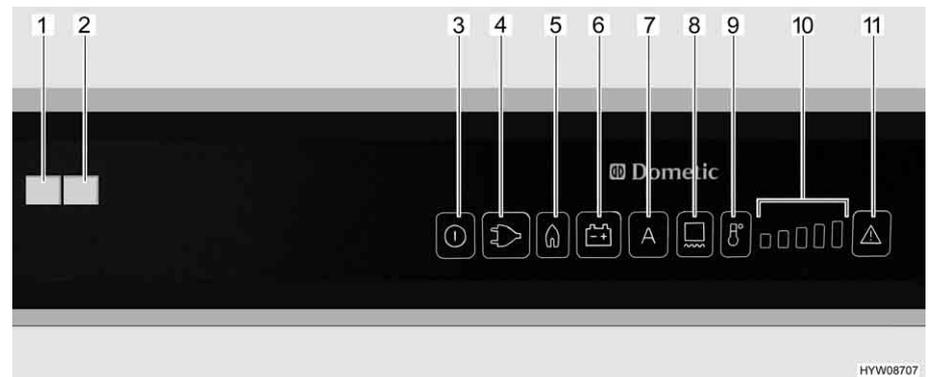

Fig. 210 Operating controls for the refrigerator (Dometic RMD)
If the "AES" operating mode is set, the 230 V supply is **not** connected and the vehicle engine is **switched off**, the AES selects the gas supply. When selecting gas operation the ignition fuse is opened automatically so gas can get into the burner. At the same time the electronic ignition is activated. If the gas flame is extinguished, e.g. by blast of wind, the ignition is activated immediately and re-ignites the gas. If there is a fault in gas operation, the illuminated buttons "Gas" (Fig. 210,5) and "Fault" (Fig. 210,11) flash. The "Fault" indicator lamp (Fig. 210,1) lights up and an alarm sounds for 20 seconds.
When turned on the first time the refrigerator automatically selects the middle thermostat position. This position can be adjusted manually using the temperature range selection button (Fig. 210,9). The indicator lamps (Fig. 210,10) show the selected thermostat position. The refrigerating temperature for all three types of energy is set with the temperature range selection button. It takes a few hours till the refrigerator reaches its normal operating temperature. When changing over the operating mode the thermostat setting will be maintained. The refrigerating temperature is retained regardless of the type of energy being used.
- Switch on the frame heater for a 2 hour period: Push button (Fig. 210,8) once. One bar is lit up on the temperature range display (Fig. 210,10).
- Switch on the frame heater for a 5 hour period: Push button (Fig. 210,8) twice. Two bars are lit up on the temperature range display (Fig. 210,10).
- Setting frame heater for continuous operation: Push button (Fig. 210,8) three times. Three bars are lit up on the temperature range display (Fig. 210,10).
The temperature range display (Fig. 210,10) shows the operating time of the frame heater for several seconds.
High external temperatures and high humidity can cause drops of water to form on the metal frame of the freezer compartment. This is why the refrigerator is equipped with a frame heater for the freezer compartment. If the temperature and humidity are high, switch on the frame heater by pressing the button (Fig. 210,8). This prevents corrosion. If the frame heater is switched on, the illuminated button (Fig. 210,8) is lit.
- Press and hold the On/Off button (Fig. 210,3) for about 2 seconds. The refrigerator switches on and the previously set type of energy or "AES" is displayed.
- Use the temperature range selection button (Fig. 210,9) to set the refrigerating temperature. The indicator lamps (Fig. 210,10) show the selected thermostat position.
- Press and hold the On/Off button (Fig. 210,3) for about 2 seconds. The refrigerator switches off and no displays are lit.